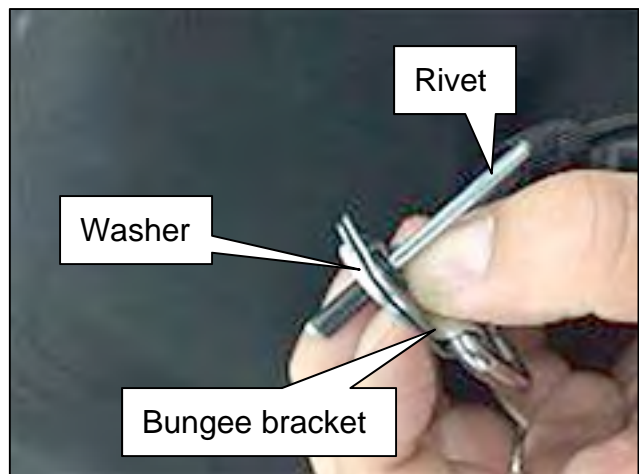

Figure 87
93. Assemble a rivet and a washer (WASH-SPL) onto a bungee bracket (WIRE-HDLNG), as shown in Figure 87.